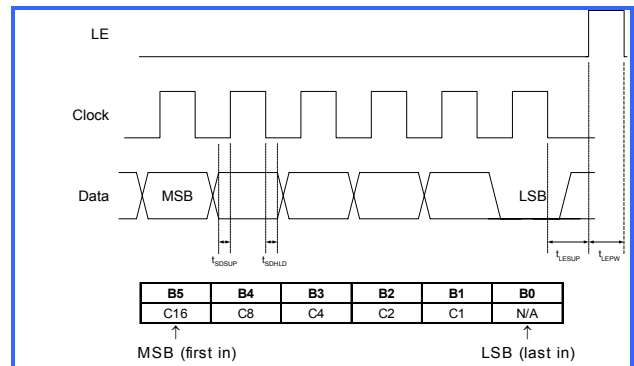

Figure 5. 5 bit 31 dB Serial Timing
3. The 5-bit 15.5 dB part in **serial** mode uses a similar clock/data string. Use Figure 5, noting 6 clocks are required, and five data bits position as shown.
4. The 5-bit 15.5 dB part in **parallel** mode uses the table in Figure 5. Note data bit pin C16 is unused.